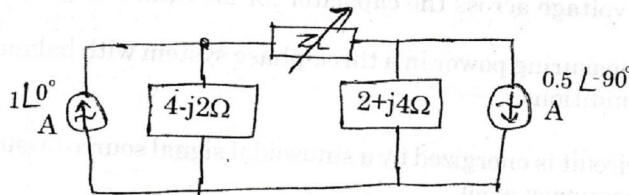

Fig. 16. a)
16. a) Determine Thevenin's and Norton's equivalent circuits for the circuit shown in Fig. 16. a) Also, find the optimum value of Z_L to derive maximum power from the network and the resultant power derived by Z_L .